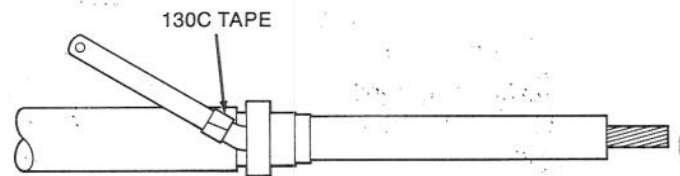

Figure 8
- a. Apply one wrap of Scotch #130C Tape around ground strap, as close as possible to edge of jacket. (Figure 8.)